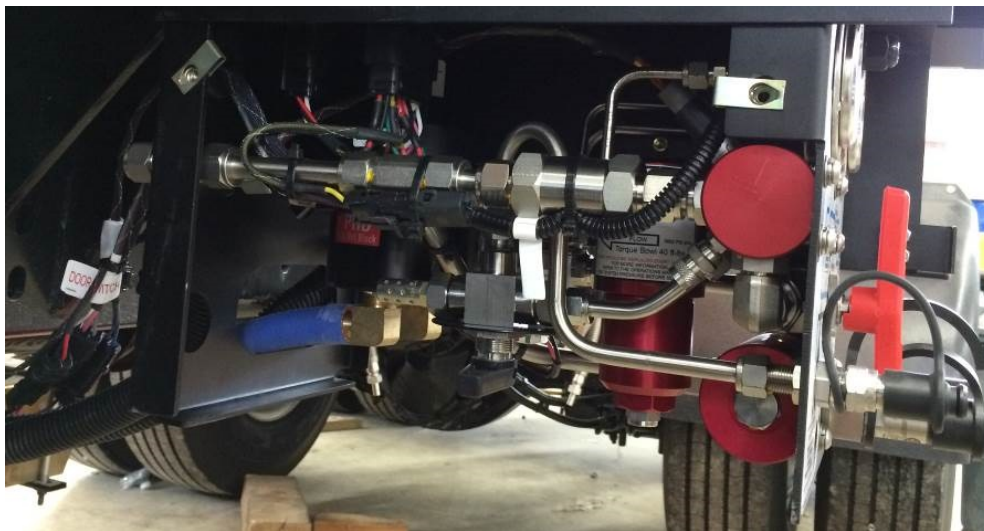

Figure 27. Box style FMM with covers removed to show most flow control components and tubing located in or near FMM.
2. Touch and grasp fuel tubes and fittings to identify loose mounts or connections. *Figure 27*